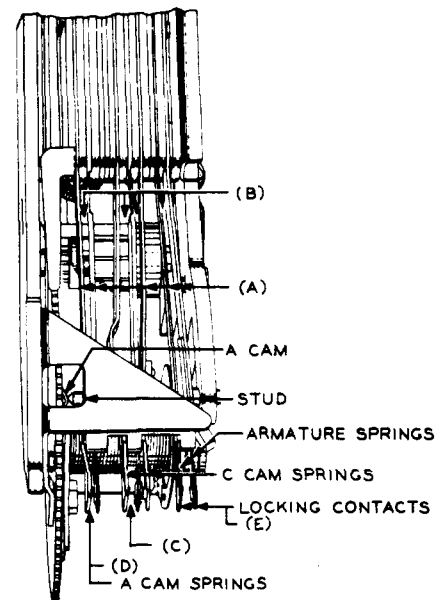

Fig. 19 - Timer - Top View
2.30 Straightness of Springs: Fig. 19(A) - All springs shall be free of sharp bends or kinks due to adjustment, but a gradual bow in the springs is permissible.
2.31 Separation Between Springs: Fig. 19(B) - The clearance between adjacent springs, whether in their operated or unoperated position, shall be